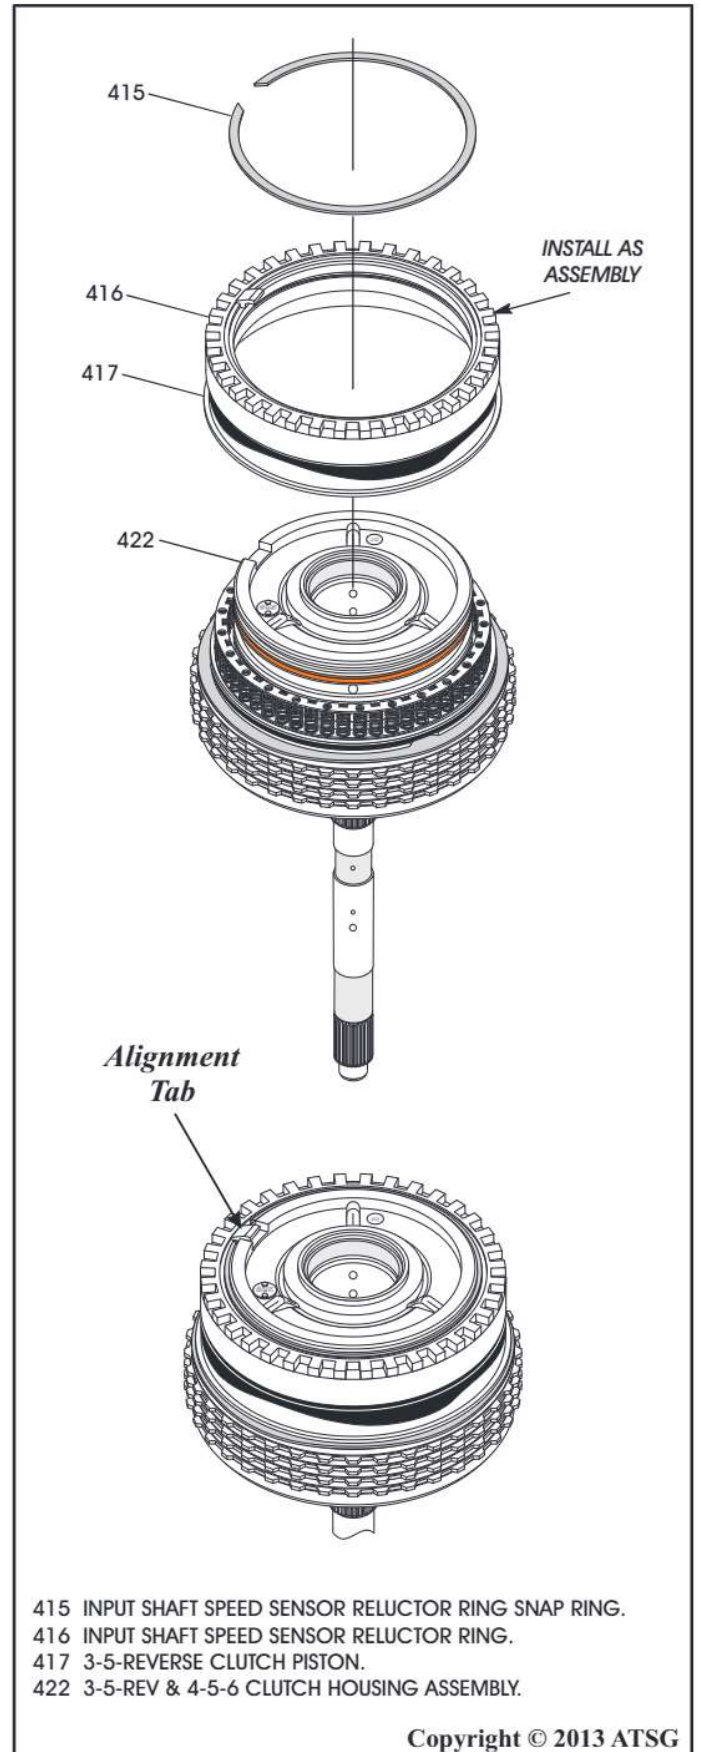

Figure 160
53. Install the reluctor wheel and 3-5-Rev piston as an assembly, as shown in Figure 160.
Note: The reluctor ring must be rotated so that alignment tab fits into the slot in the housing, as shown in Figure 160.
55. Install the snap ring with alignment tab centered in the snap ring opening (See Figure 160).